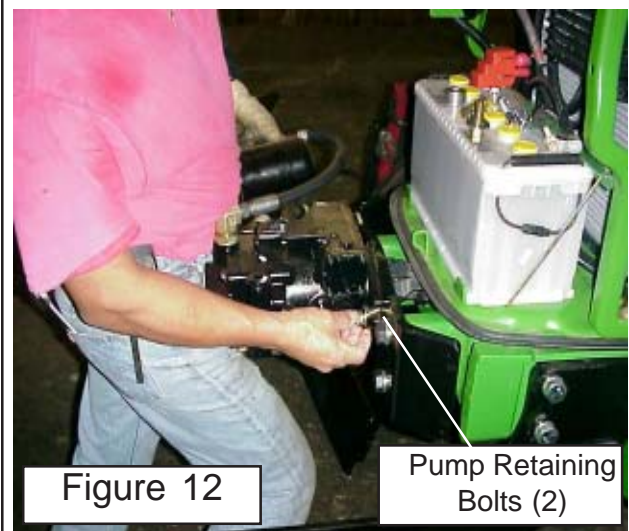
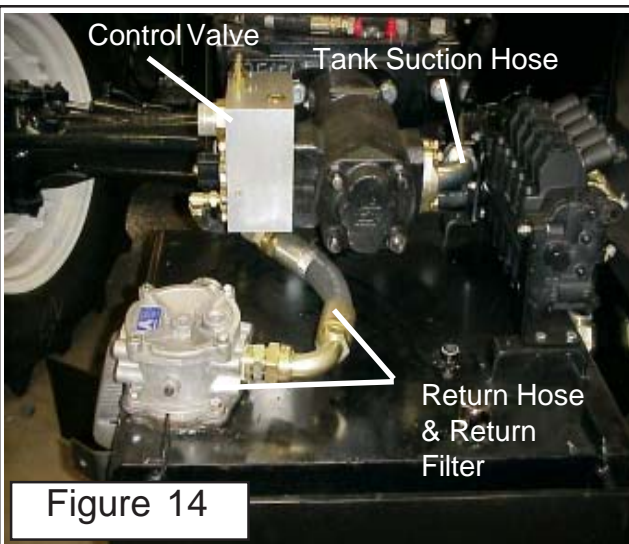

Figure 12
Figure 14
10. Mount Pump to Pump Plate. Remove the Bar that is slid through the Driveshaft Yoke and push the Pump inward (See Figure 11). This will make the two piece Driveshaft slide together allowing the Pump to be pushed towards the tractor. Do this until the Pump is against the Pump Plate (See Figure 12).
11. Install Pump Mounting Bolts. While holding in on the Pump (See Figure 12) start the two Pump Retaining Bolts. Make sure both Bolts are started well before you stop supporting pump. The Bolts should be snugged until pump sits level before you stop supporting it (See Figure 12). Let go of the Pump, it may slide back some and leave a slight gap between Pump and Mounting Plate (See Figure 16).
12. Tightening Pump Mounting Bolts. There is a shoulder on Pump Flange that must line up through hole in Pump Mounting Plate (See Figure 14), if the Pump is slid back as in figure 11 try to push it inward until it is against Pump Mount Plate as shown (See Figure 12). Slowly and alternating from Left to the Right side, tighten the Pump mounting bolts until they are tight. **DO NOT FORCE** Pump through Pump Mount Plate, if it will not freely slide in check for a problem of some kind. Excess force could damage Pump Housing. (See Figure 12). Do Not remove any Plastic caps from Pump inlet or outlet at this time, keep all openings plugged and sealed to keep them clean.
C. The Suction Hose At Tank: The suction hose is connected to the pump next. Make certain that suction hose is fastened tightly at the Tank (See Figure 14).
D. The Suction Hose At Hydraulic Pump Fill the hose with clean new hydraulic oil (recommended type only). This is so when pump is started it will not start up dry. Install suction hose to hydraulic pump and tighten hose fitting (See Figure 14).